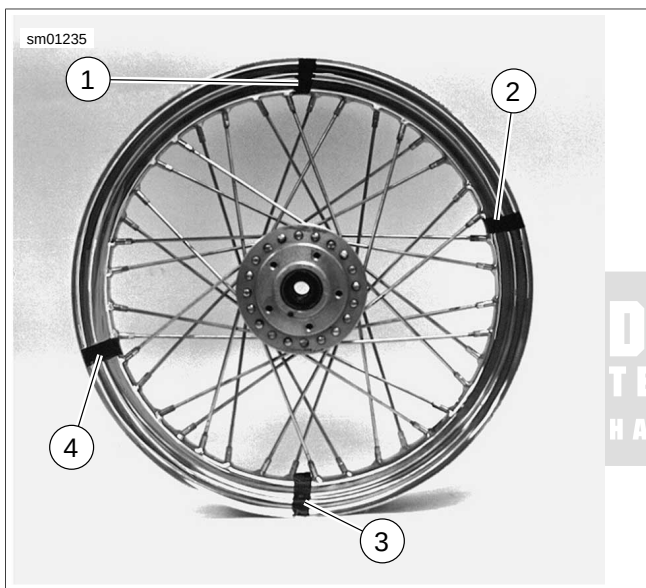

Figure 2-59. Marking Spoke Groups
1. See Figure 2-59. With a piece of tape, mark the center of each of four groups of four as shown. The groups should be directly across from one another and approximately 90° apart.